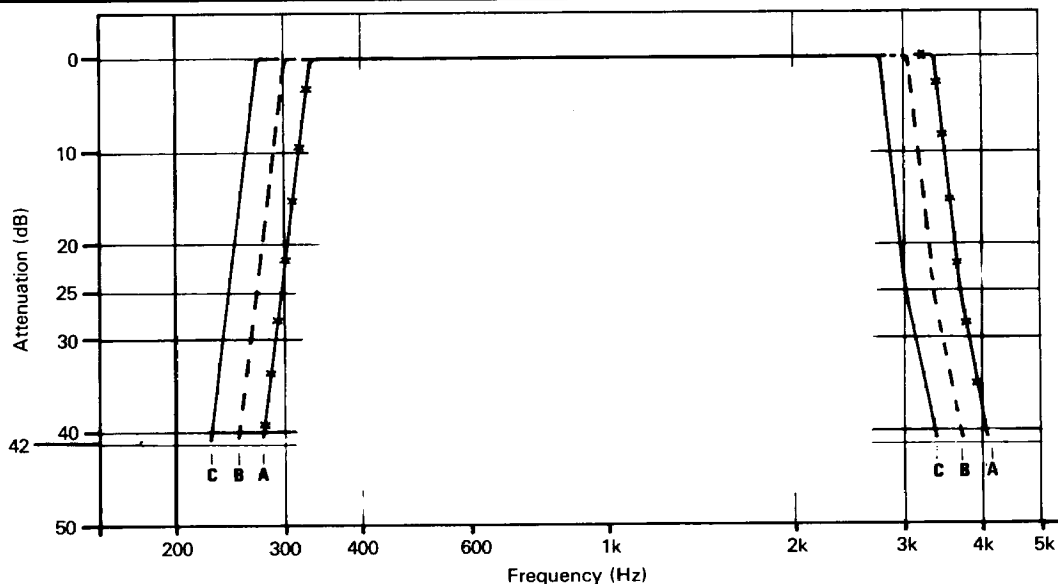

Fig. 5 Typical Audio Bandpass Filter Responses (1 Filter)
5. All bandpass filters display similar performances. See Figure 5.